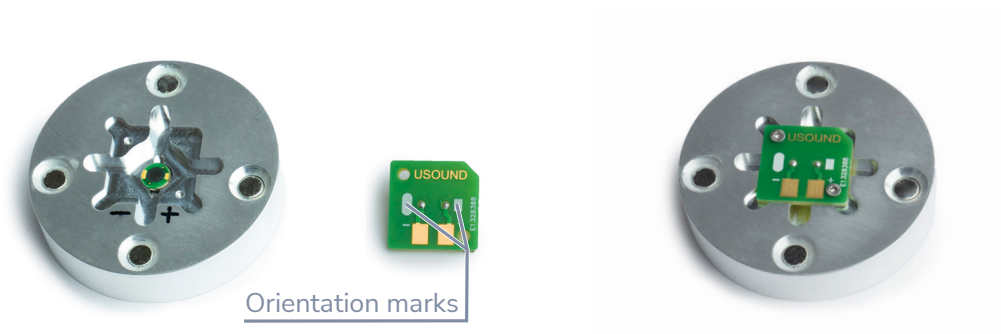

Figure 7: Coupler adapter with the MEMS speaker and the connection PCB (reference photo with UJ-E1040C06).
- Put the MEMS speaker inside the coupler adapter, with the contact pads facing up, as shown in Figure 7
- Place the connection PCB on the coupler adapter. Make sure the contacting pads shape on the speaker and the orientation marks on the connection PCB match, as shown in Figure 7.